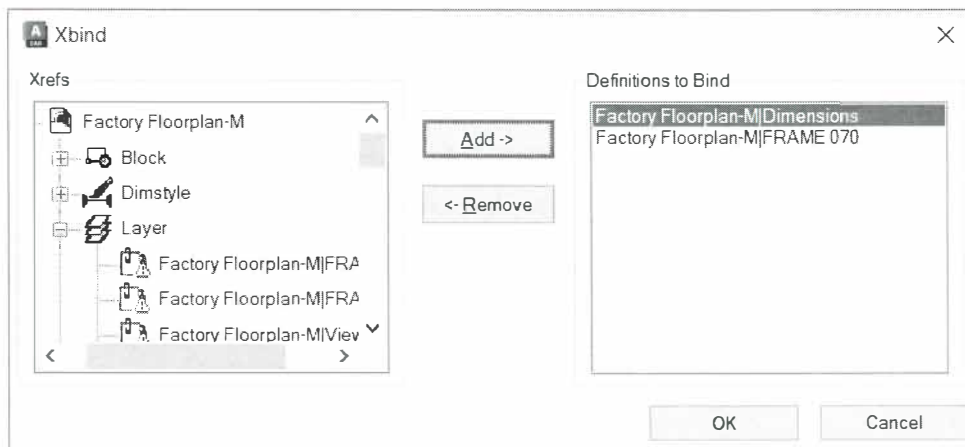

Figure 11–39
- **Xbind** opens the Xbind dialog box (shown in Figure 11–39), in which you can select the drawing reference file from which to bind, the type of object (layer, block, etc.), and the specific named object to bind. Click the **+** sign to display the listings under each category. Select the object and click **Add** to add it for binding.